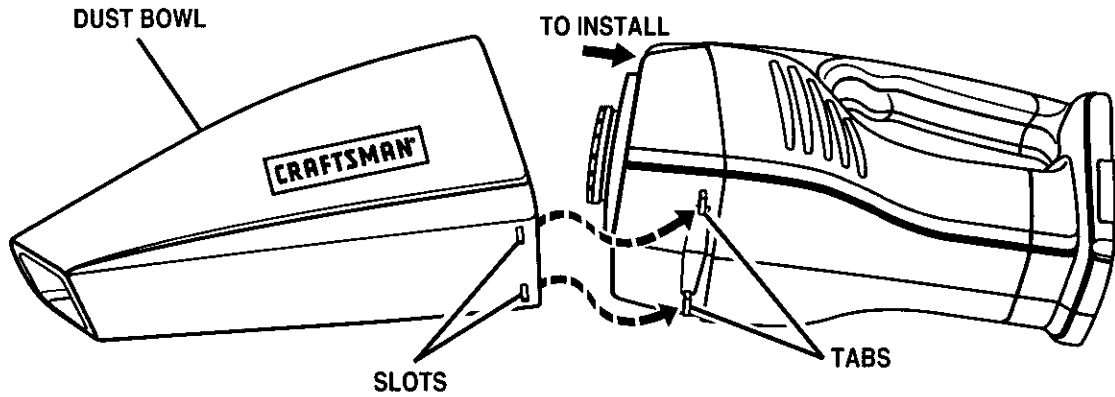

Fig. 7
See Figure 7.
- Position the two sections as shown in Figure 7. Align slots on bottom of dust bowl with tabs on bottom of motor housing then snap the two sections together.